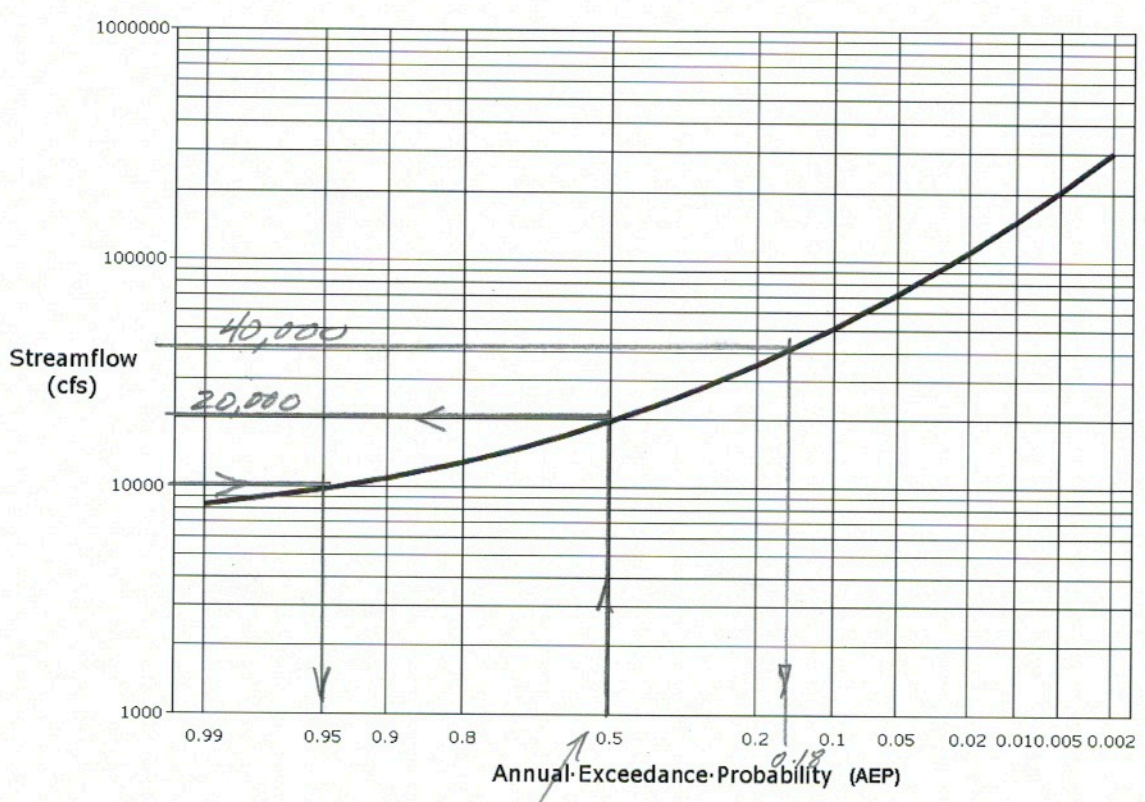

Figure 1: Flood frequency curve for a gaging station
1. Figure 1 is a flood frequency curve for somewhere in Texas. Using the curve answer the following questions: